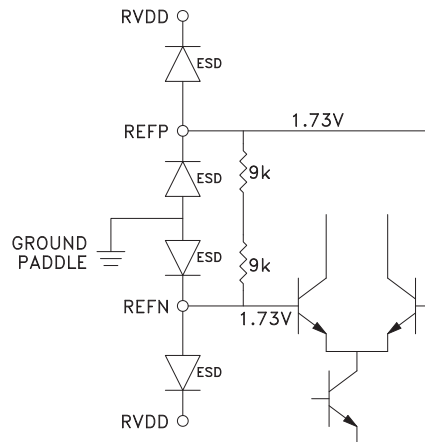

Figure 8. Reference Path Input Stage
The reference input provides the path from the external reference source to the phase detector. The input stage of the reference path is shown in Figure 8. HMC700LP4(E) is a DC coupled, common emitter differential NPN buffer. Input pins have 1.8V bias on them. Expected input is full swing 3V CMOS. Slightly degraded phase noise performance may result with quasi sine or sine inputs. Input reference should have a noise floor better than -155 dBc/Hz at 50MHz to avoid degradation of the input reference path. The input reference path phase noise performance is approximately equivalent to -155 dBc/Hz. This input should be well isolated from the VCO for best spurious performance in fractional mode.